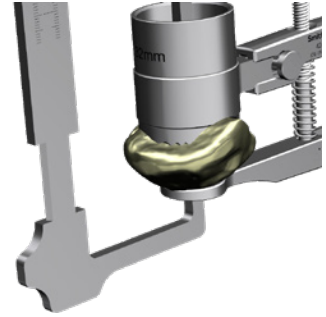

Figure 32
9. If the Resurfacing design is selected, use the Caliper to reassess the patella thickness (Figure 32).